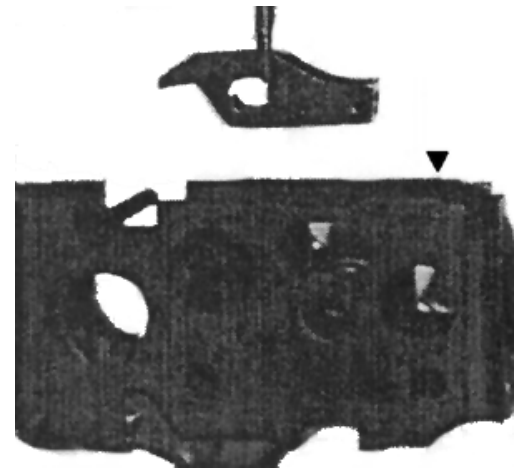

Figure 49
- From the top of the housing, place the *sear* on top of the *trigger* (Fig. 49)